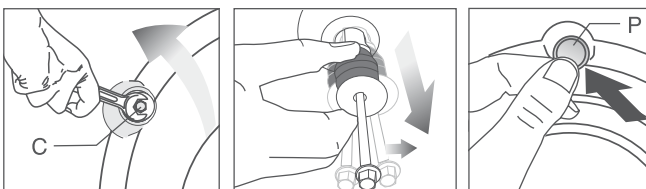

Fig.2 Removing the transit safety bolts
- 1 Use a spanner or socket to unscrew and remove all four transit bolts at the back of the washer (Figure 2, "C").
- 3 Cover the bolt holes with the white plastic plugs which are attached to the machine and located near each hole (Figure 2, "P"). Push to clip into place.